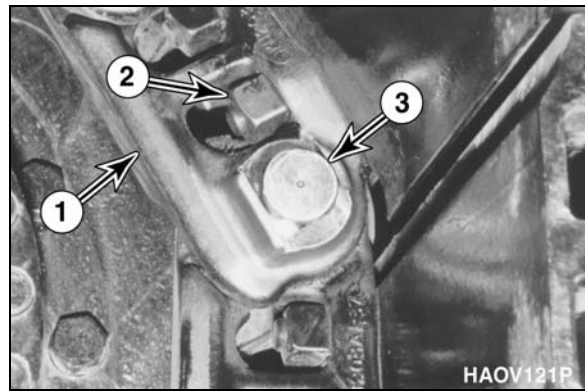

Figure 12
3. Move machine until master link (1, Figure 12) is positioned at approximately 10 o'clock from top position on travel reduction gearbox.
4. Remove four nuts and bolts (2, Figure 12) holding shoe to link. Remove enough shoes to make access to lock pin easier.
NOTE: *Support track shoes with blocking so that when master pin (3, Figure 12) is removed track will not fall.*
5. Remove master pin (3, Figure 12) from master links.